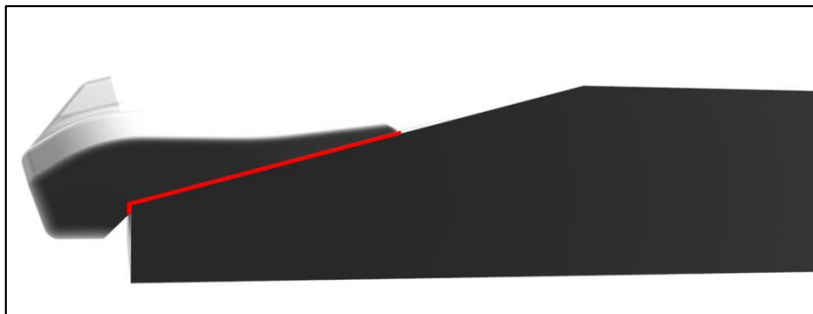

Figure 24 Boss seating
2.14.1. Visually check the positions of the Boss parts to check if all boss parts are seated properly on the Lip. Ensure the red highlighted surfaces are in contact. Refer Figure 24.